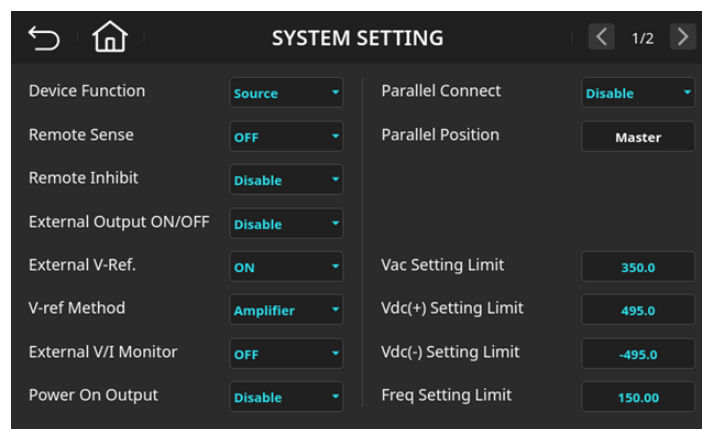

Figure 6-6 System Function Settings Page (External V-Ref.=ON, V-ref Method=Amplifier)
3. After selecting "Amplifier", as shown in Figure 6-6, click the Home button .